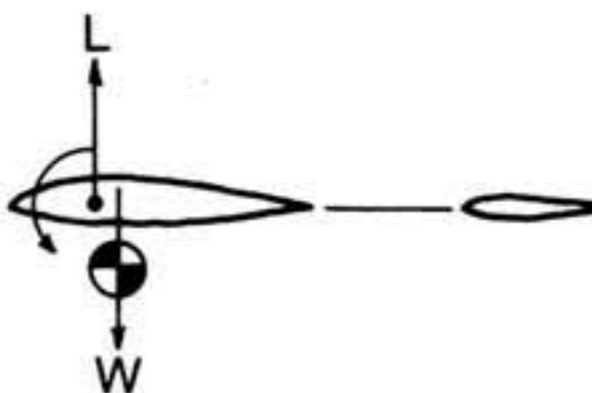
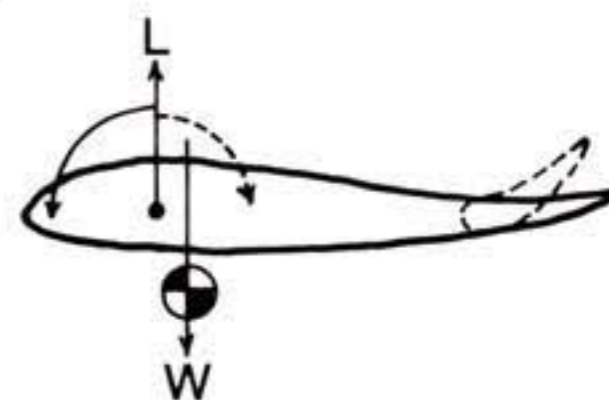

Fig. 2 CG relation to AC on fixed wing aircraft.
Fig. 4 Alteration of pitching moment in a reflex section.
4.0 Now have established that an aerofoil pitches around its AC, the exact position of the CG has to be located relative to it. Fig.2 shows how the forces are conventionally arranged on a fixed wing aeroplane with separate stabiliser. Obviously for trimmed flight total lift ahead of the CG must equal total lift behind. For aerodynamic
A reflex section in a rigid wing responds in exactly the same way. Fig.4 shows that alterations to the amount of reflex fed into the aft section of the aerofoil affects the strength and/or direction of the pitching moment around the AC. 5.0 From Figs.2, 3 and 4 you could say that if you moved the actual CG only you would end up with the same result. This is quite true, if a little impractical. Indeed several types of aeroplane do in fact enhance their aerodynamic control by CG shifting.